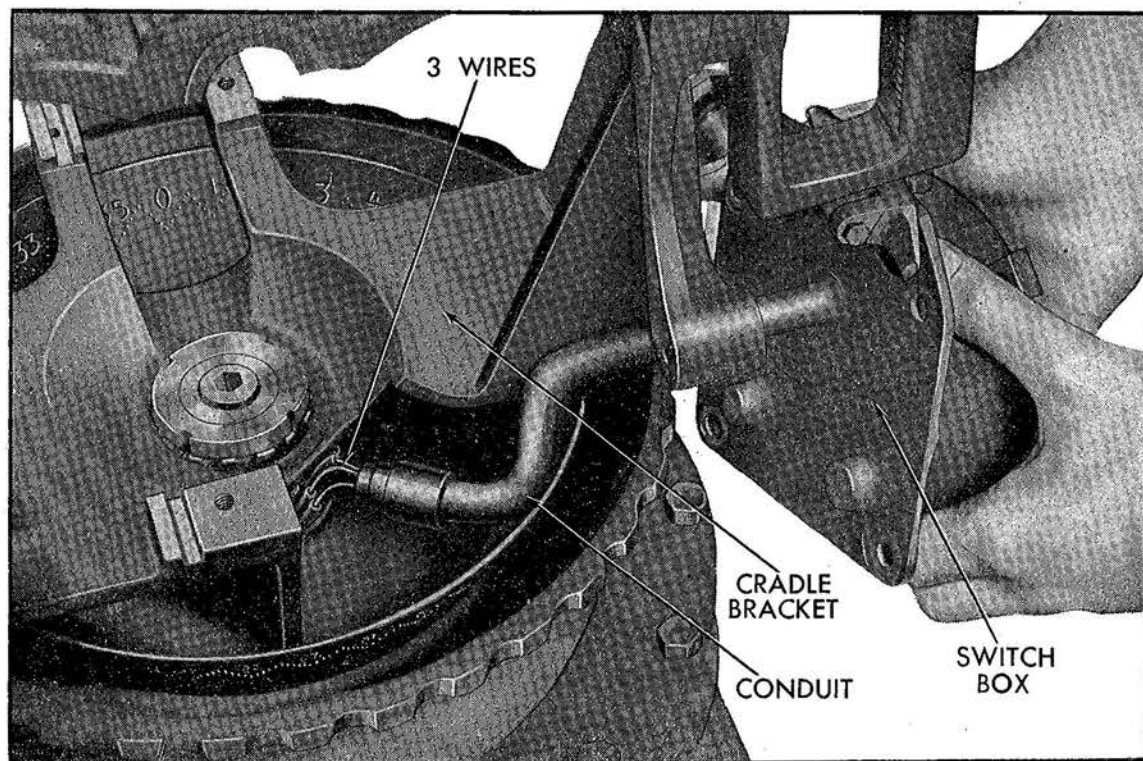

Figure 24.—Removal of Switch Box
6. Remove switch box assembly from cradle bracket, pulling the wires through the conduit. (See Figure 24).